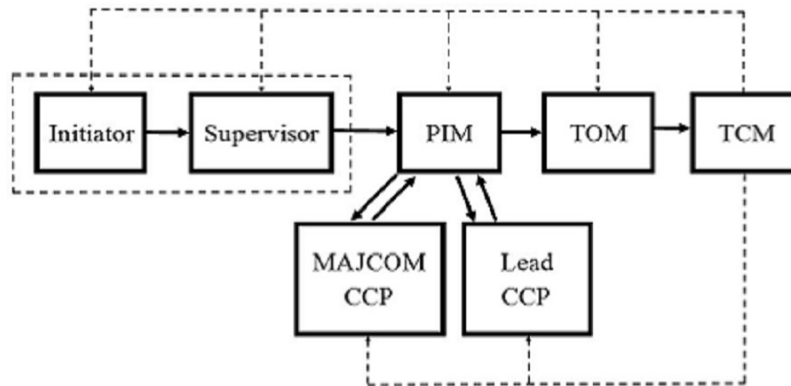

Figure 1-2a. Technical order improvement process.
With these terms fresh in your mind, you will now learn the improvement reporting method. This method is simplistic in nature with just a few people involved in the whole process. However, it can take a large amount of time to complete depending upon the change recommendation submitted. Everything begins with you, the initiator, discovering a potential problem within the TO and discussing your concerns with your supervisor (fig. 1-2a). Once you and your supervisor have discussed the problem, submit an Air Force Technical Order (AFTO) Form 22, Technical Manual (TM) Change Recommendation and Reply, to the product improvement manager (PIM). It is important to note if multiple errors/discrepancies are discovered within the TO, you must submit a change recommendation per error/discrepancy. The reason for this standard is that each change recommendation must be evaluated separately to see the affect it will have on the program or equipment. After submitting, an AFTO Form 22, your part is complete and you will learn of the change recommendation's disposition once it has made its way through the process. The PIM sends the AFTO Form 22 and supporting documentation to the MAJCOM and Lead Command Control Point's (CCP) for review. Once they review the documentation, they send it back to the PIM who then forwards it to the technical order manager (TOM). The TOM reviews the paperwork and, when finished, sends the change recommendation to the technical content manager (TCM). The TCM will